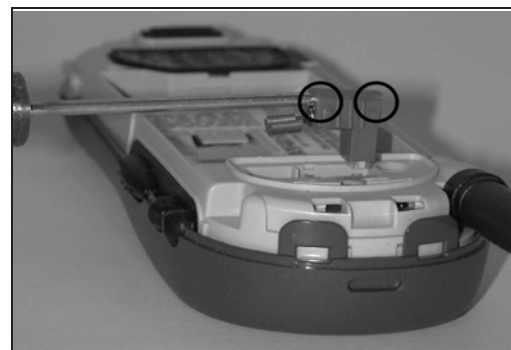

Figure 7-13.
3. Pull up on end opposite counterweight so that 4 submerged hooks on plastic jacket are exposed. (See Figure 7-13.)